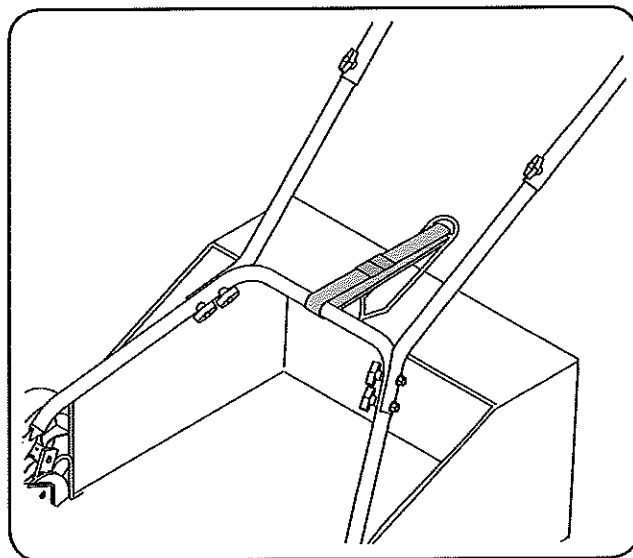

Figure 3-6
3. Position the strap through the grass catcher's handle and over the mower's lower handle crossbar to support the rear of the grass catcher. See Fig. 3-6. Adjust the length of the strap so that the bag is low to the ground but not dragging on the ground.